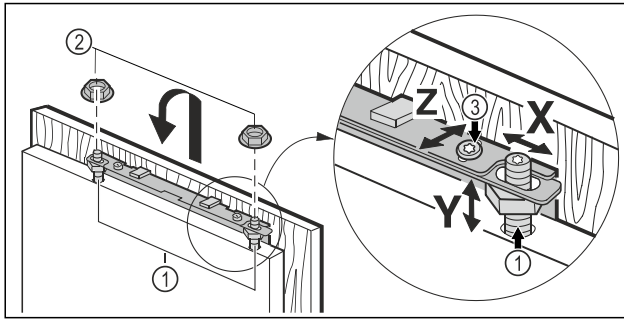

Fig. 43
- ▶ Hook the unit door onto the adjustment bolts Fig. 43 (1) and screw the lock nuts Fig. 43 (2) loosely onto the adjustment bolts.
- ▶ Align the unit door in height Y and in the lateral inclination: Adjust the adjustment bolt Fig. 43 (1) with a screwdriver.
- ▶ Tighten the lock nuts Fig. 43 (3).